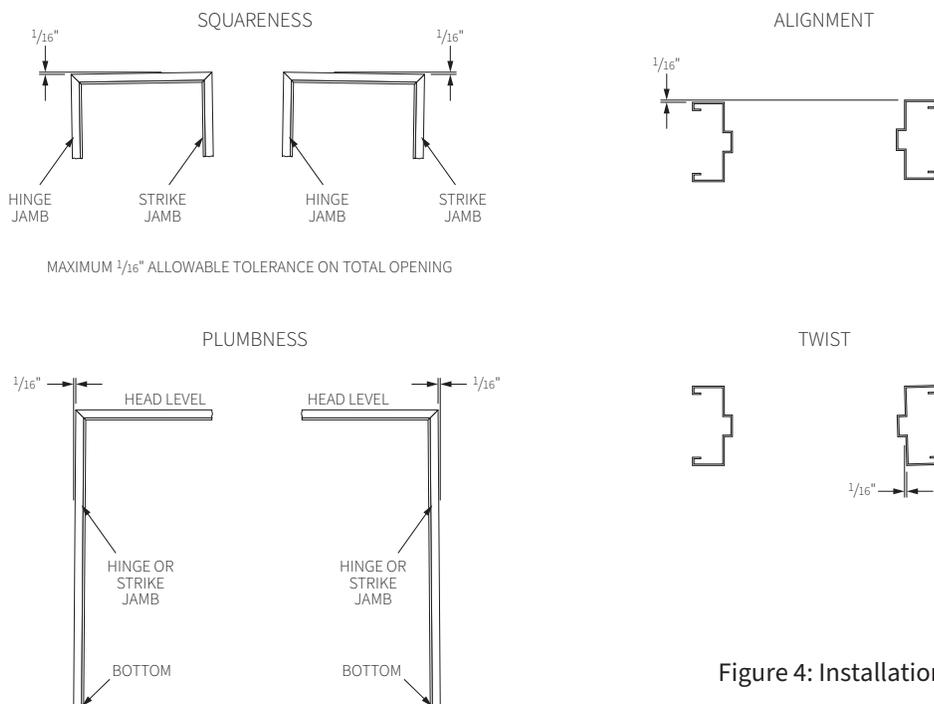

Figure 4: Installation Tolerances
1. The detailed description of frame installation techniques that follow speak of plumbing, squaring and aligning the frame. The details in Figure 4 indicate the maximum allowable tolerance in this area.